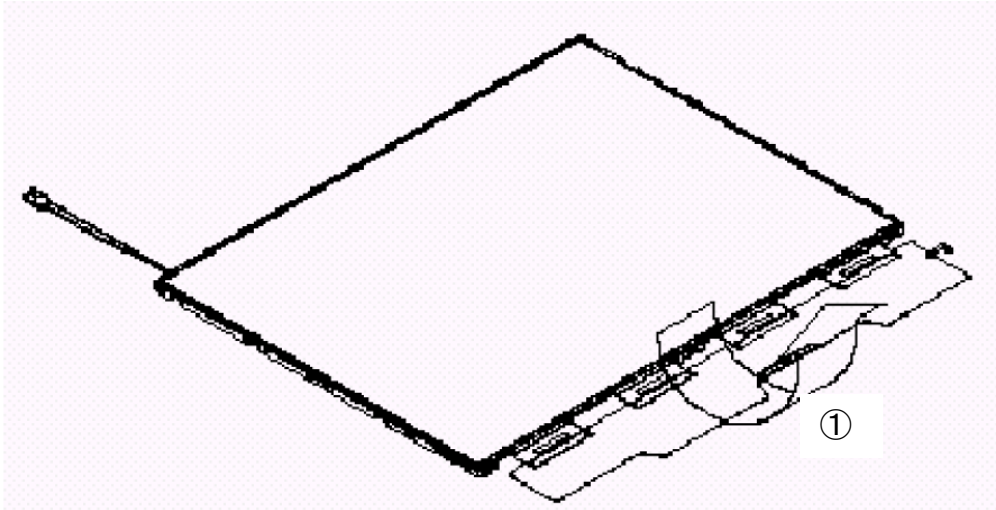

Figure 4-72 Replacing TMD fluorescent lamp (XGA) (4)
1. Spread out the PCB horizontally, as shown in Figure 4-72.